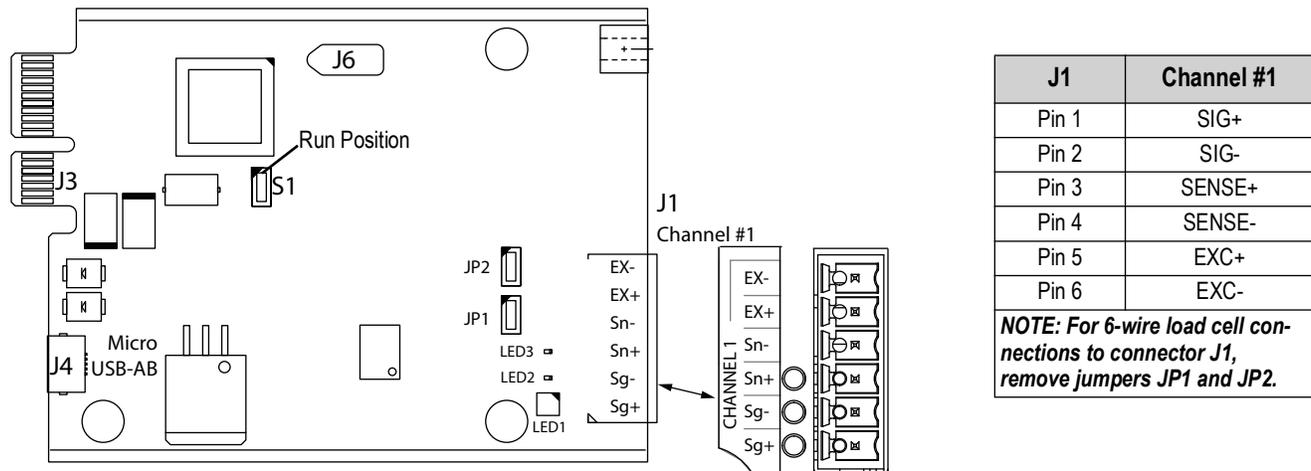

Figure 8-3. Single-Channel A/D Card Pin Assignments
2. Wire the load cell cable from the scale to the connector (from the parts kit) for J1 as shown in Figure 8-3.